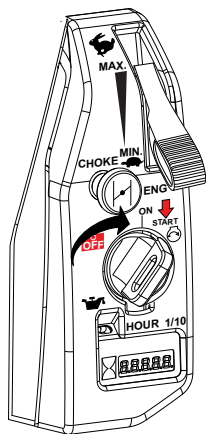

Figure 16. Engine ON/OFF Switch (Start)
- Place the ignition key (Figure 16) in the **START** position and hold it until the engine starts. When the engine starts, release the key, allowing it to return back to the **ON** position.